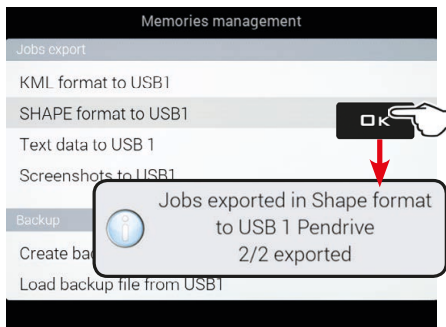

Fig. 297
- Select **SHAPE format to USB 1** (Fig. 297) and press **OK**.